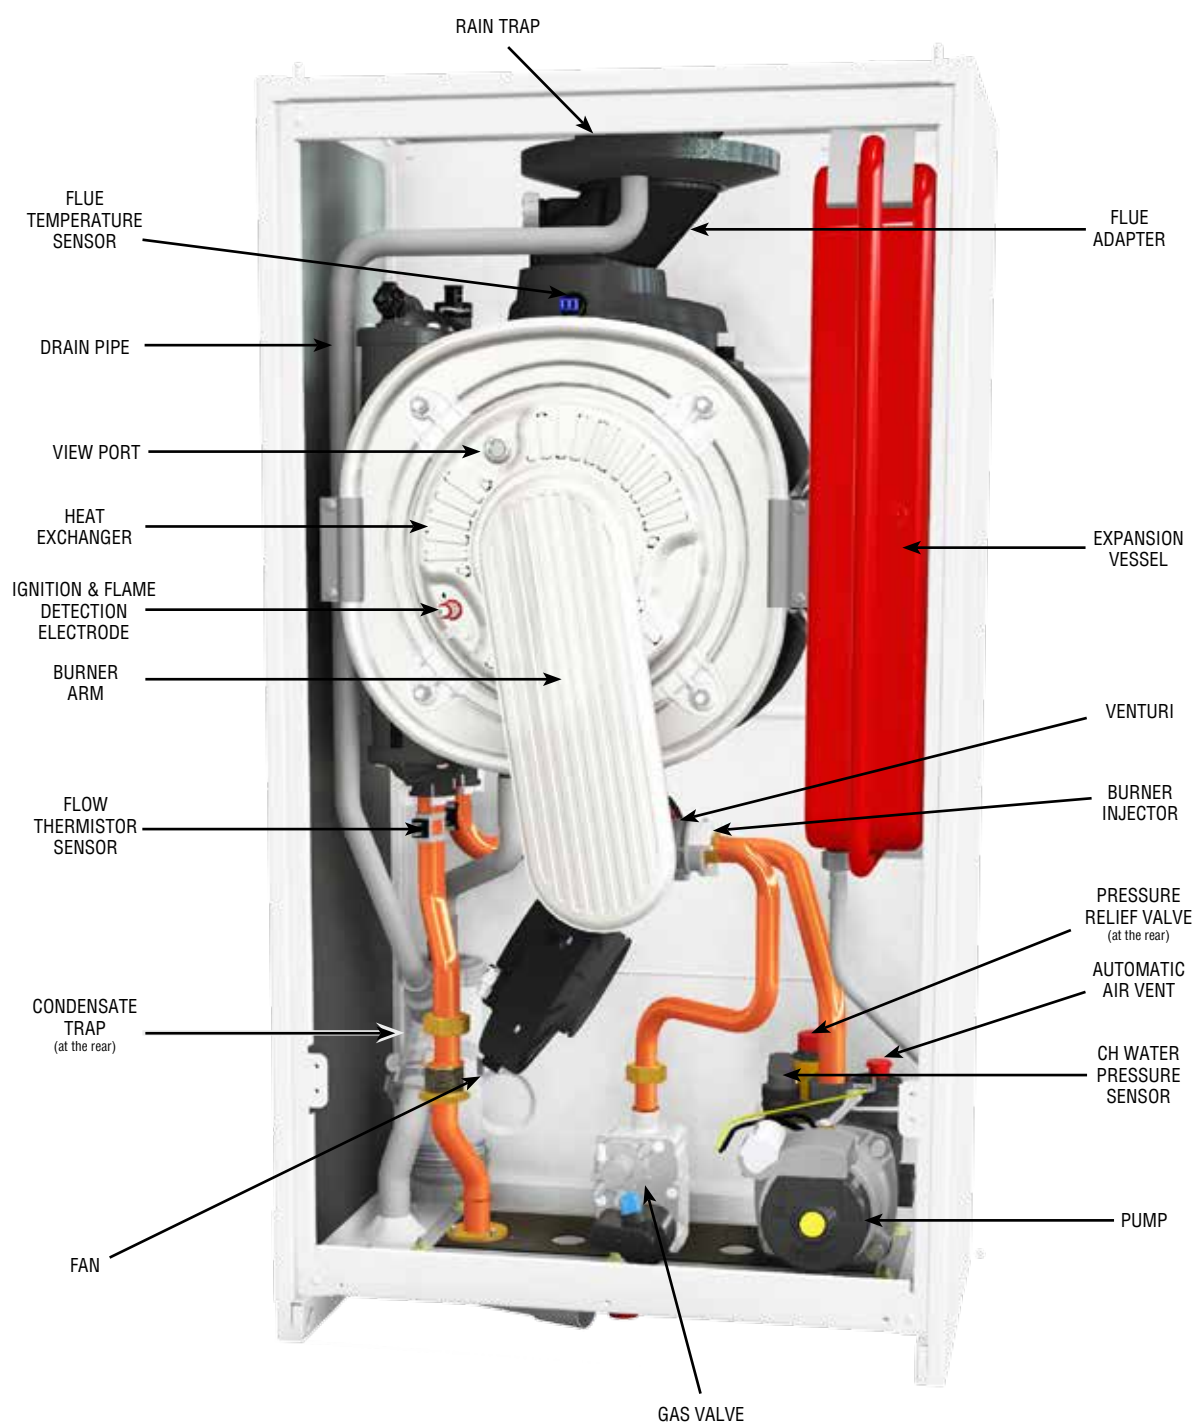

FIGURE 33. QUANTEC SYSTEM INTERNAL COMPONENTS
- 17.7.2 Remove the ignition/detection lead. See Figure 33.